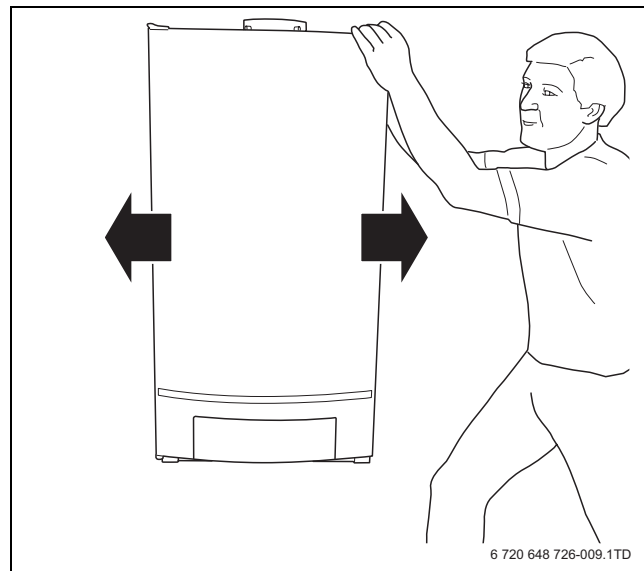

Fig. 9 Sliding the boiler
- ▶ Slide the boiler into place (→ fig. 9).